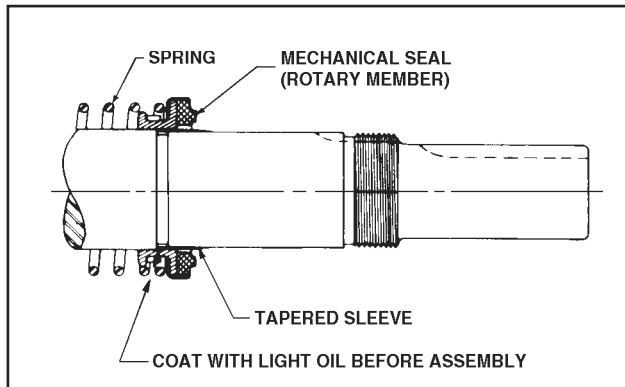

Figure 22
4. Place tapered installation sleeve on shaft. Refer to Figure 22. Sleeve is furnished with GG, AS, AK, and AL replacement mechanical seals. Coat rotor shaft, tapered installation sleeve, and inner diameter of mechanical seal rotary member with a generous amount of refrigeration oil. Petrolatum may be used but grease is not recommended.
**GG, HJ, HL:** Install ball bearing into bearing housing with shield side toward coupling end of shaft. See Figure 22. Install snap ring into bearing housing to retain ball bearing. This snap ring has a tapered edge to fit tapered groove in bearing housing. The tapered edge is located away from ball bearing.